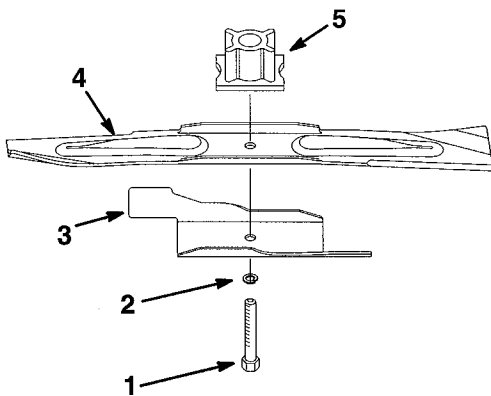

Figure 26
5. **REMOVING BLADE**—Grasp end of blade using a rag or thickly padded glove. Remove blade bolt, lockwasher, blade accelerator, blade and retainer (Fig. 26).